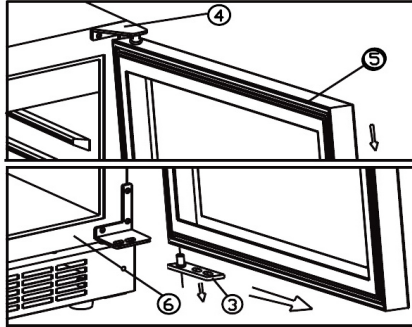

fig. 8.2
- Dismount the door by pulling it forwards and free from the top hinge. See fig. 8.2